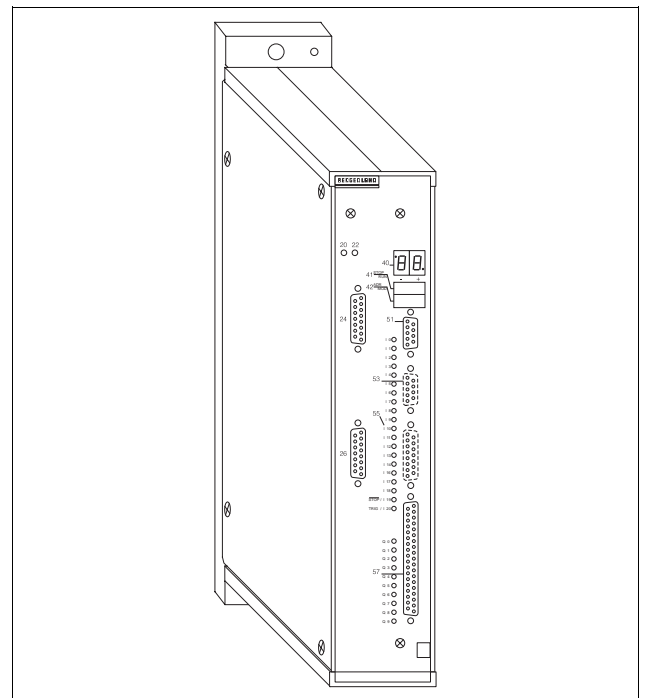

Fig. 1-2 WP-311 in 5-phase housing
- WP-311 in 5-phase housing (fig. 1-2), matching the 5-phase stepping motor product family